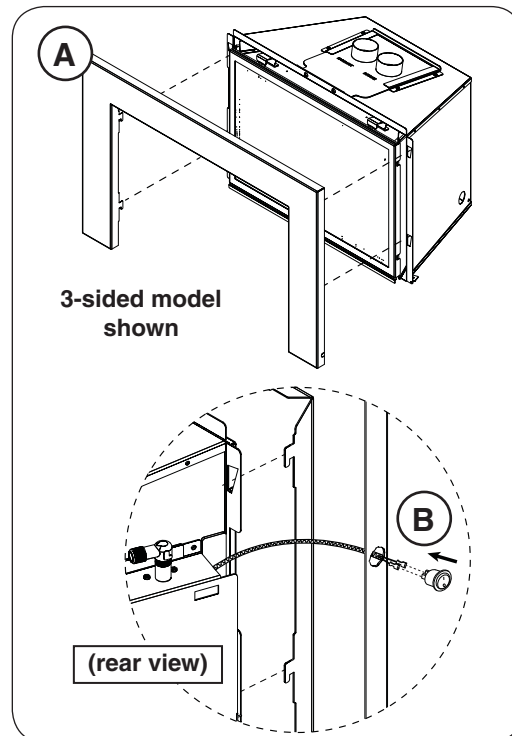

Fig. 38-1 Install surround and switch
2. The rear of the surround has 4 hooks. Insert the hooks into the four slots found on the front of the unit. Ensure the surround firmly rests down in place. See Fig. 38-1, "A".
Note: The ON/OFF switch on the unit must be installed during the installation of the surround. Disconnect the switch from its wires, route the wires through the hole found on the left side-panel of the surround, reconnect the wires, and snap the switch into place. See Fig. 38-1, "B".